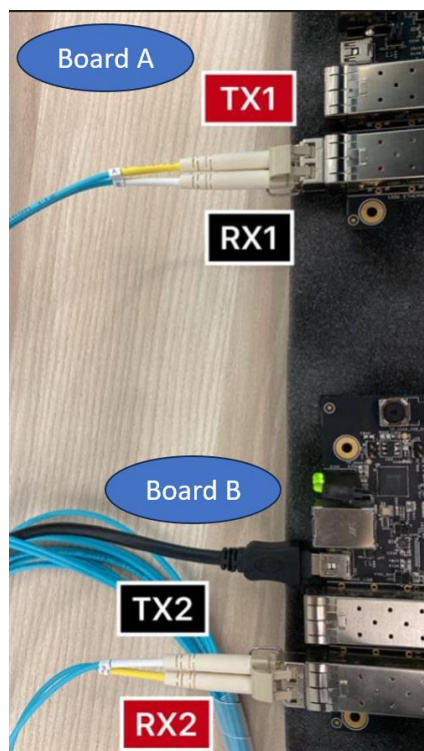

Figure 7.5. Optic Fiber Cables Connection to Boards
There are two flows of data when connecting board to board. In Figure 7.5, Board A TX1 sends data out from the SFP TX1 through the optic fiber cable to Board B SFP RX2 and data is received by Board B RX2, vice versa when Board B sends data out to Board A.
- Connect the optic fiber cables (TX-RX) as shown in Figure 7.5.